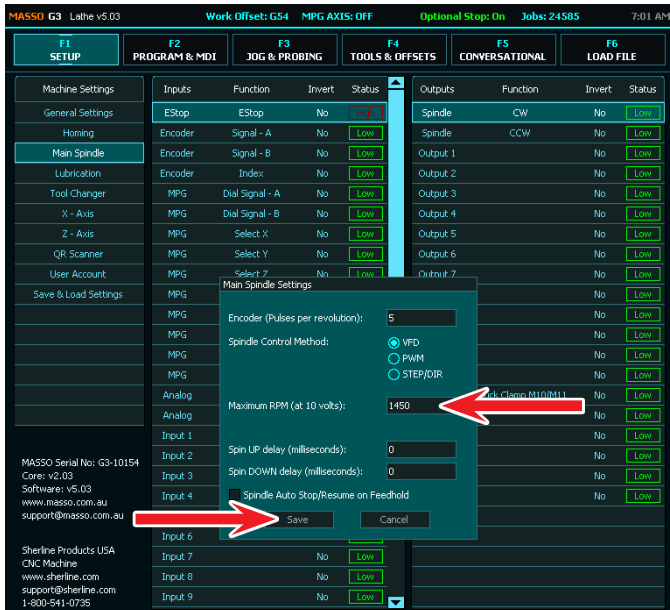

FIGURE 12
E. Enter (1450) and click on “Save” (see Figure 12).